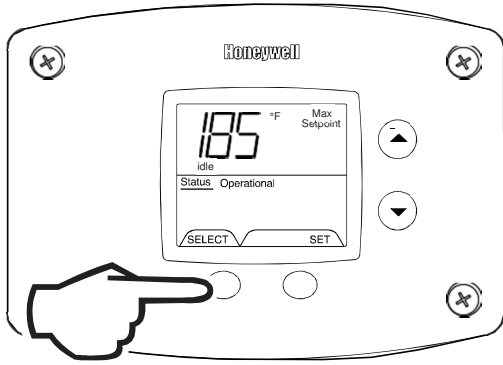

Fig. 40
1. In service mode press the 'Select' button until 'Max Setpoint' is displayed (Fig. 40).